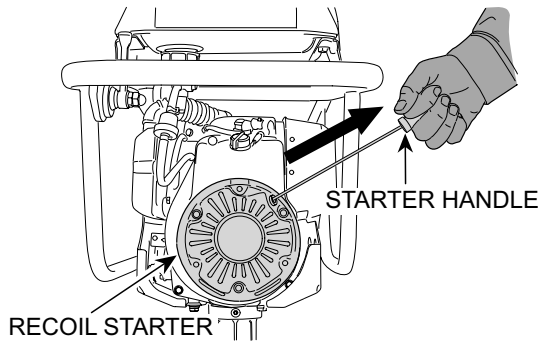

Figure 17. Recoil Starter
- Grip the recoil starter (Figure 17) handle and pull it until you feel a slight resistance. Then pull sharply and quickly. Return the recoil starter handle to the starter position before releasing.